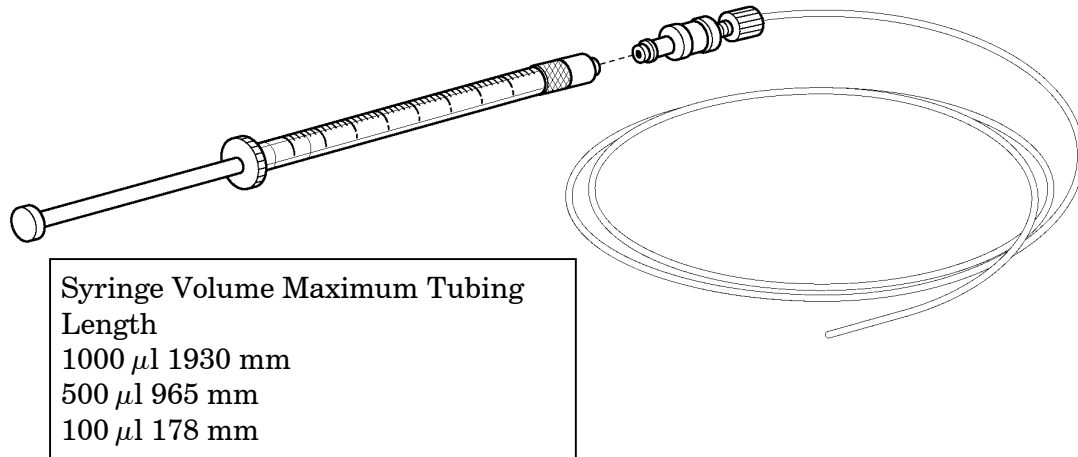

Figure 2-2. Connecting the tubing to the tip of the syringe.
6. Connect the tubing to the tip of the syringe as shown Figure 2-2 and gently and slowly push the plunger so that hydraulic fluid moves to the tip of the tubing.
NOTE: The tubing length supplied contains approximately 450 microliters of fluid. If a syringe with less than 500 microliters volume is being used, a concomitantly shorter piece of tubing must be attached, otherwise the fluid cannot be pushed to the tubing tip. A guide to syringe volumes and appropriate tubing lengths is shown in the table in Figure 2-2, please refer to the Troubleshooting section for more information.